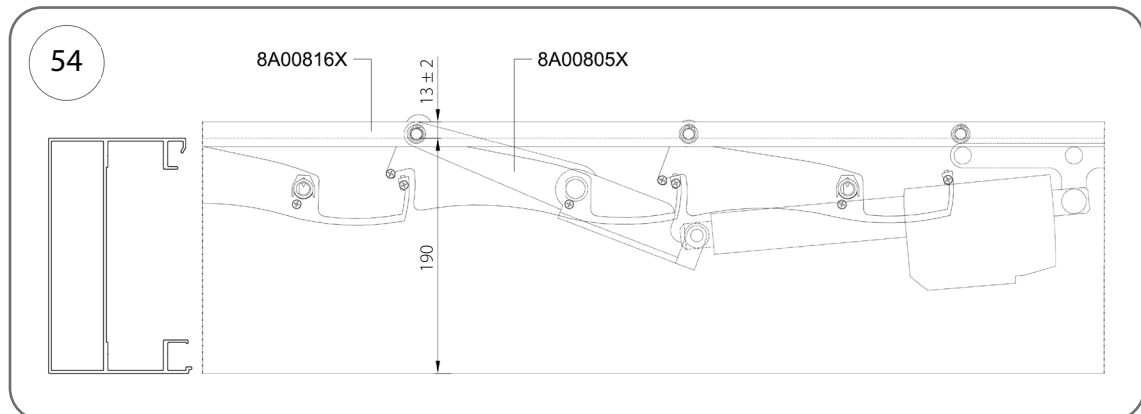

Fig. 54
3. Set the closed end position in accordance with Fig. 54.